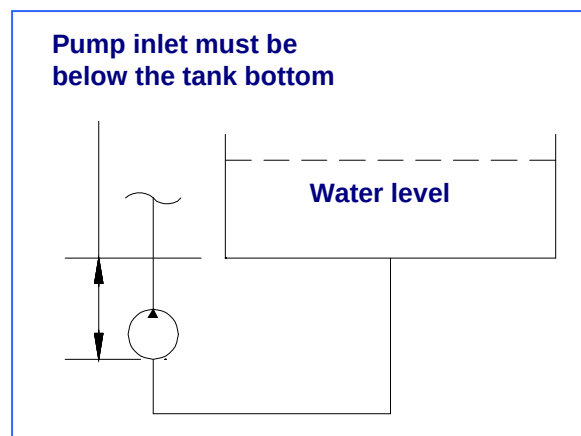

Figure 4.4 – Gravity Feeding Source
- Gravity feeding water source (See Figure 4.4). In this case the electric pump is not required. Use a hose with a diameter of at least 1-1/2" to connect the water tank to the power unit
Ensure that the water source can reliably deliver the maximum pressure pump flow of 28 GPM (106 LPM). A minimum flow of 35 GPM (133 LPM) is recommended to ensure that the pressure pump is not starved of water. If connecting to a tank, locate the bottom of the tank above the water inlet connection on the power unit to ensure a flooded suction line (See Figure 4.4).